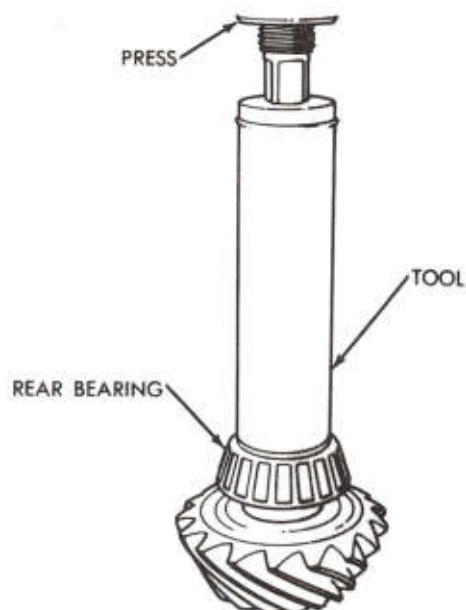

Fig. 21—Installing Pinion Bearing Cone
(2) Drive or press inner bearing onto shaft until it is completely sealed using Tool C-3095-A (Fig. 21).